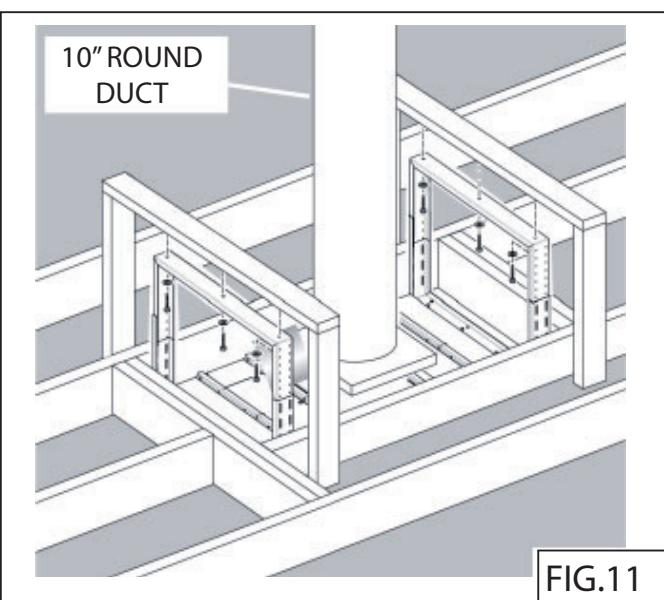

FIG.11
4. Install exterior or in-line blower by following instructions provided with blower. Fig.11